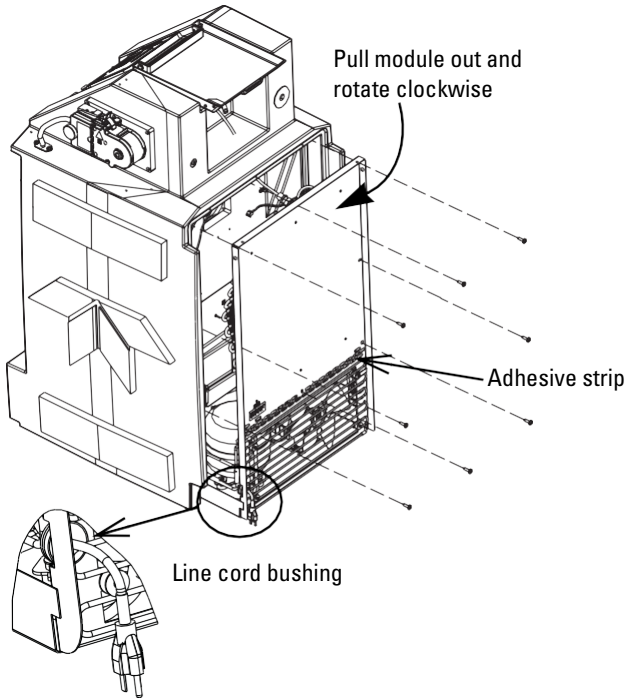

Figure 16: Remove refrigeration module
4. Remove the refrigeration module mounting screws (Figure 16).
5. Carefully pull the module out and rotate clockwise to expose the wiring connectors. The bushing holding the AC line cord in place should slide along the cord (see Figure 16, inset). During reinstallation, the slack created in this step must be removed.